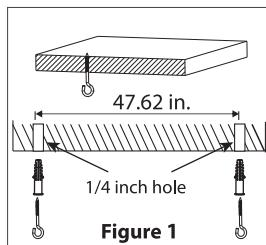

Figure 1
1. Install provided screw-hooks directly onto ceiling. Spacing between screws should be 47.62 inches (See Figure A). For concrete ceilings/drywalls, wall anchors are required. Drill two holes (use a 1/4 inch drill bit) for provided wall anchors then use provided screw hooks (See Figure 1).